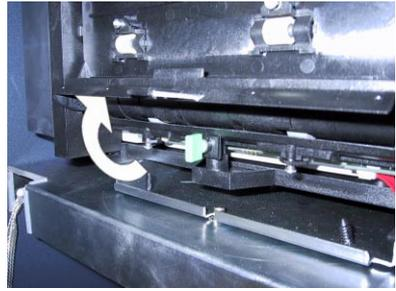

Fig. 7-7. Unlock and lift lower access door to check for stuck notes.
4. Release the **lower access door (refer to Figure 7-7)**. Carefully lift the door to expose the feed path. Remove any notes.